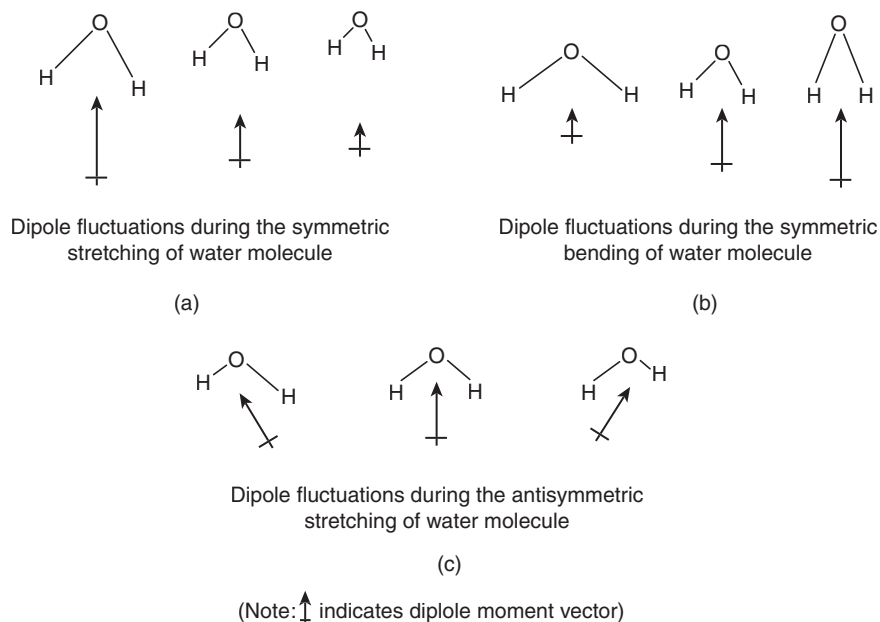
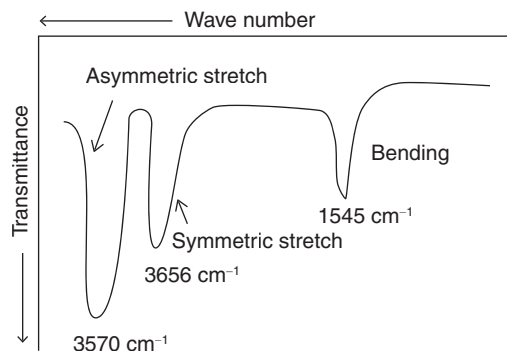

Figure 12 Fundamental vibrations of water molecule.
Figure 13 IR spectrum of water molecule.
2. In the case of bent structure, all the three vibrations shown in Figure 12(a-c) are infrared active and they give rise to three absorption bands in vibrational spectra. Therefore, for bent molecule or non-linear molecule, three absorptions are expected to appear in the vibrational spectra of the molecule. For H_2O , three absorption bands at 750 cm^{-1} , 1323 cm^{-1} and 1616 cm^{-1} are observed in the IR spectrum corresponding to three modes of vibration (Figure 13).
In the spectrum (Figure 13), we observe that